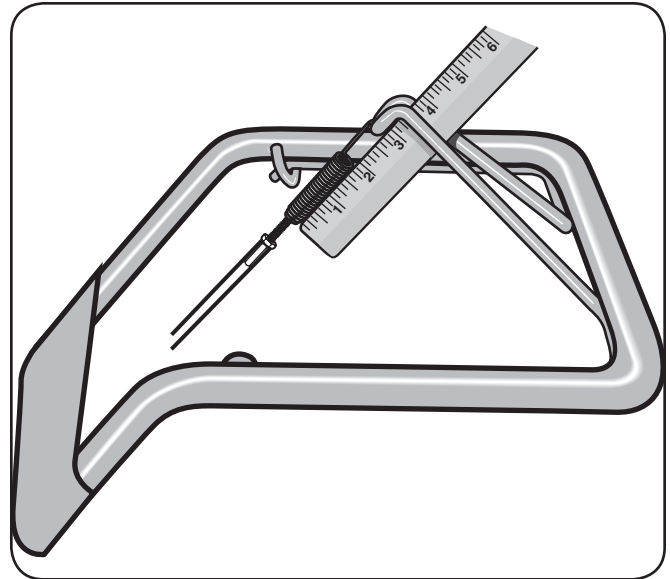

Figure 3-6
2. Thread the #10-24 hex nut halfway onto the screw which runs through the spring. See Inset Fig. 3-6.
- a. With the Forward Clutch Bail in an open (released) position, measure the length of the cable spring from the outermost coil to the outermost coil. See Fig. 3-6.
- b. Squeeze the Forward Clutch Bail against the handlebar (see Fig. 3-6) and re-measure the spring length. The belt tension is correct if this second measurement is between $\frac{1}{16}$ " to $\frac{3}{16}$ " longer than the first measurement. If so, turn the hex nut tightly against the cable adjuster while preventing the cable adjuster from turning.